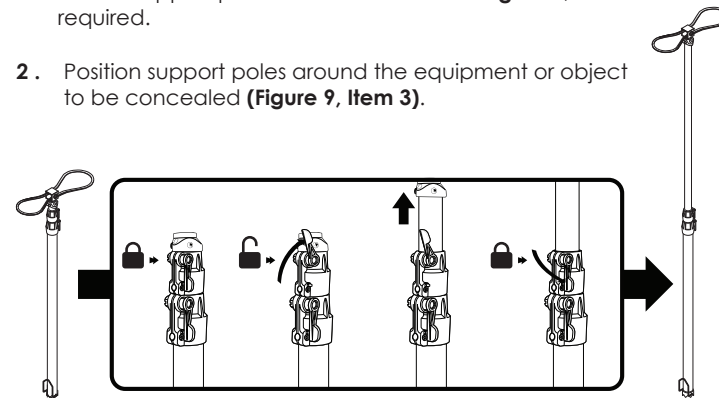

Figure 8.
1. Extend support pole sections as shown in Figure 8, as required.